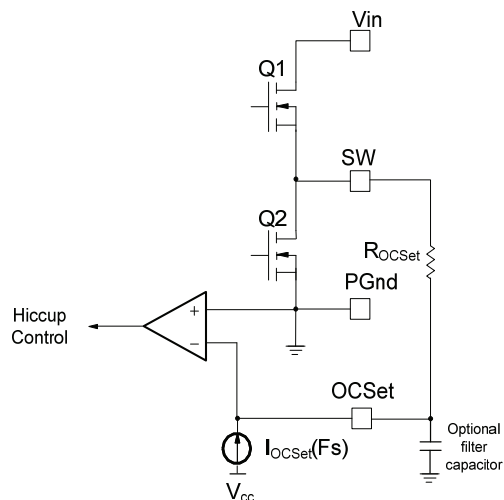

Fig. 7. Connection of over current sensing resistor
The over current protection is performed by sensing current through the $R_{DS(on)}$ of the sync FET. This method enhances the converter's efficiency and reduces cost by eliminating a current sense resistor. As shown in figure 7, an external resistor (R_{OCSet}) is connected between OCSet pin and the switch node (SW) which sets the current limit set point.